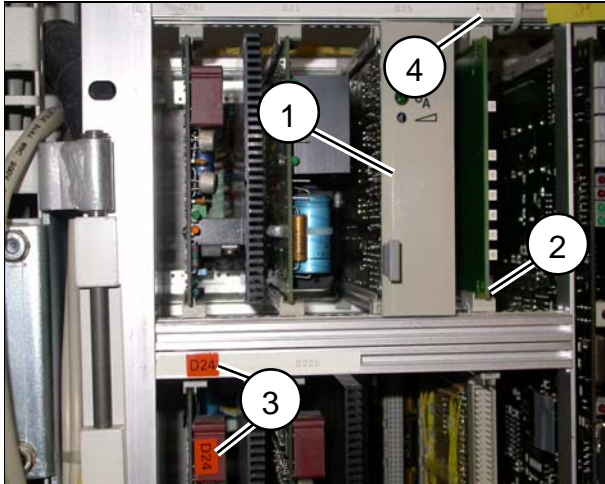

Fig. 1
- Remove the board D25 (1/Fig. 1).
- Connect the socket connector for board D23 to the slot next to board D25 (2/Fig. 1). Use the supplied slotted cap screws for this. If there are no threads available in the control frame, then use self-tapping screws M2.5 x 8 with Phillips head.
- Label the slot with D23 (4/Fig. 1).
- Affix label D24 at position (3/Fig. 1).